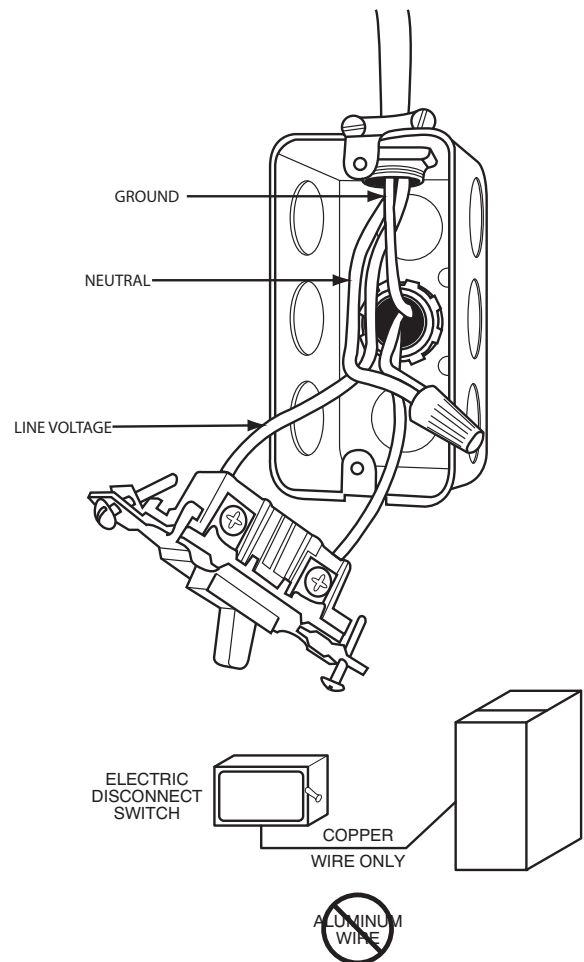

Fig. 34 - Field-Supplied External Electrical Box on Furnace Casing
Do not connect aluminum wire between disconnect switch and furnace. Use only copper wire. See Fig. 34.
1. Drill two (2) 1/8-in. (3 mm) pilot holes through the dimples in the furnace casing near the 7/8-in. knock-out on the side of the casing. Do not remove the knock-out in the side of the casing.
- Connect field power and neutral leads to furnace power leads inside the external electrical box as shown in Fig. 34.